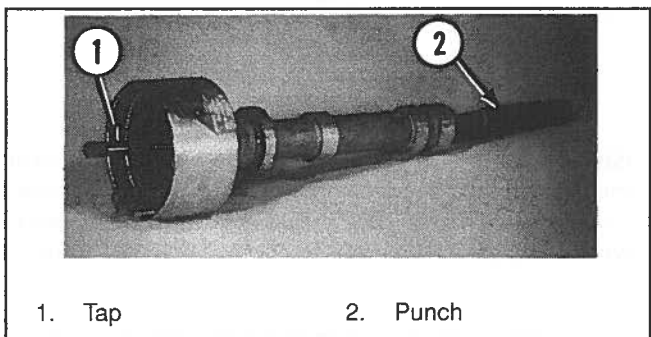

Figure 6-43. Removing Upper Bushing From Prestolite Distributor
6. Thread a 1/2 in. x 13 or 1/2 in. x 20 tap into the upper shaft bushing. Using a punch, drive tap and bushing out of housing (Figure 6-43).